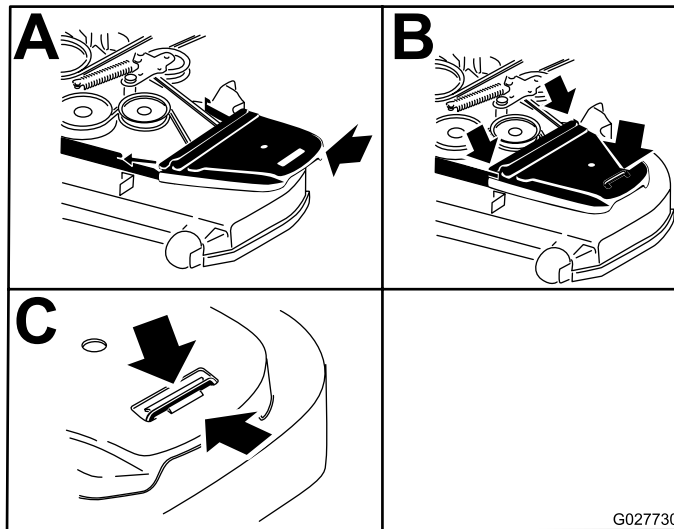

Figure 99
- Rotate and ensure the belt-guide tab hits against the pivot hub (Figure 99).
- Install the belt covers (Figure 99).